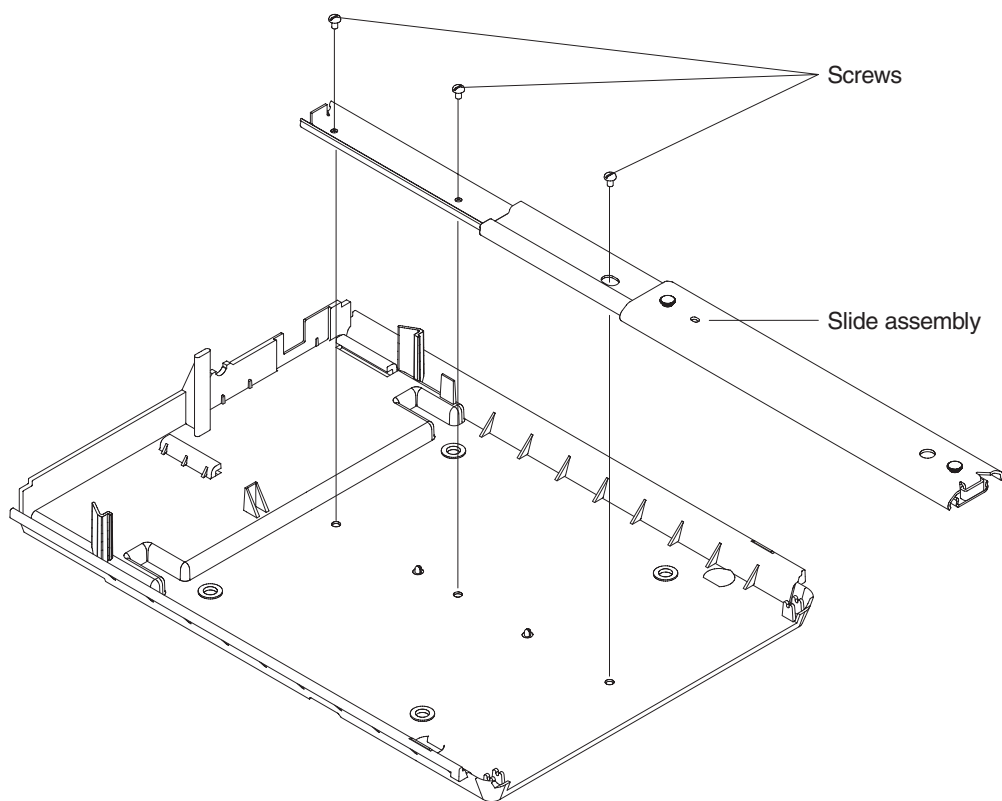

Figure 90. Compact cash drawer slide assembly
3. Remove the three screws that secure the slide to the base and lift the slide assembly out. See Figure 90 on page 110.